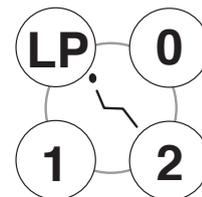

Fig.3-9 Chair Auto Mode Control Switch
⑥ Chair Auto Mode Control Switches(Fig.3-9) **A** **E**
- a. Momentarily press the preset-1 switch (1), the chair moves to the preset 1 position and stops automatically.